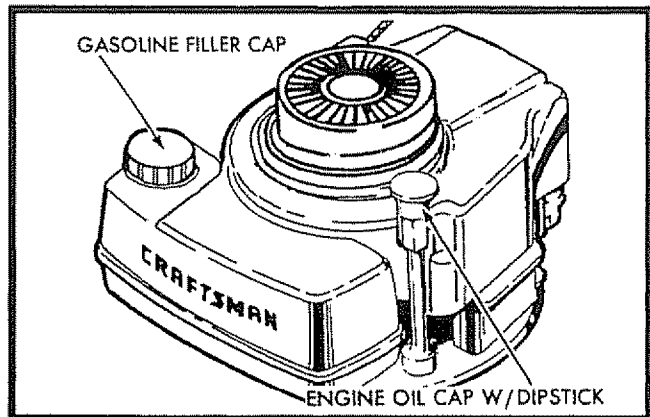

FIG. 5
- Remove Engine Oil Cap (See Fig. 5) and fill to the FULL line on the dipstick.
- Fill gasoline tank with fresh, clean unleaded gasoline. BE CAREFUL NOT TO OVERFILL TANK (SEE FIG. 5)